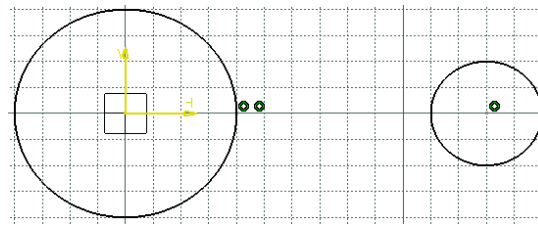

Figure 3-52 The sketch after drawing the second circle
6. Move the cursor toward the right and specify the point on the circle, when the radius displays a value of 20 in the **R** edit box in the **Sketch tools** toolbar. The sketch, after drawing the second circle, is shown in Figure 3-52.